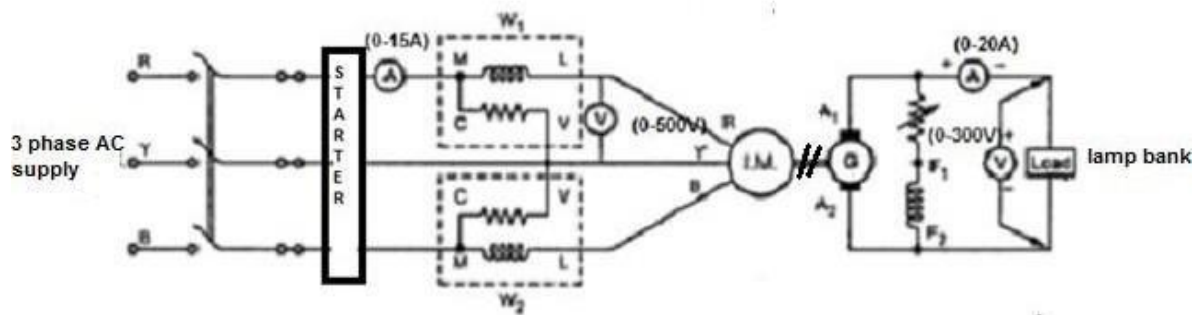

Fig 3.1
1. Make the connections as per the circuit diagram shown in Fig. 3.1.